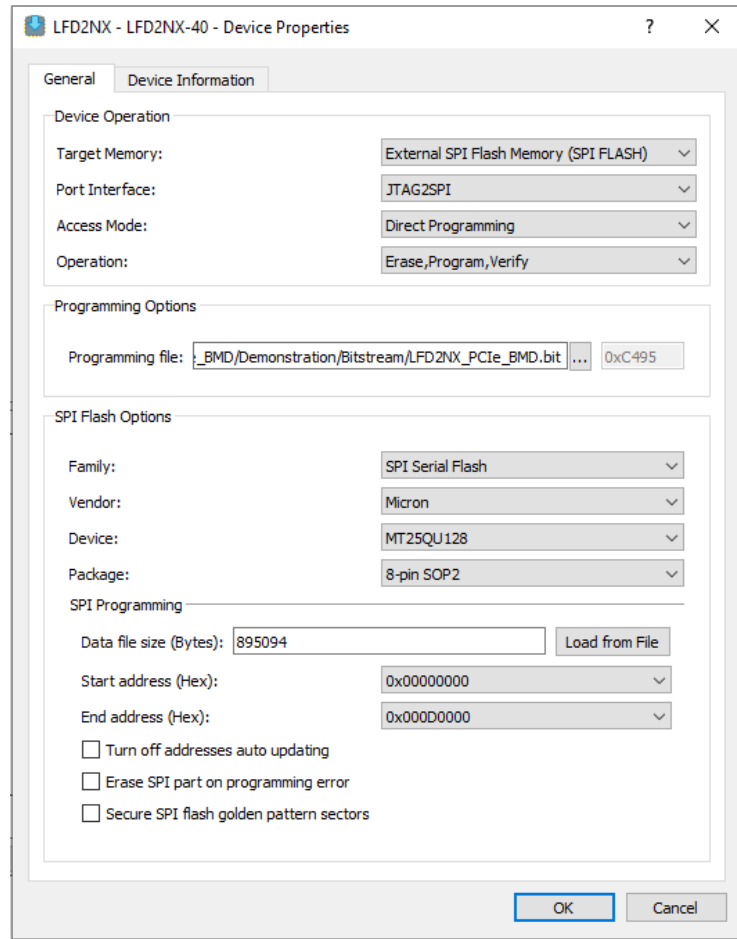

Figure 3.10. Device Properties Window for Certus-NX SPI Flash Programming
- For Certus-NX family, select the settings as shown in Figure 3.10 below.